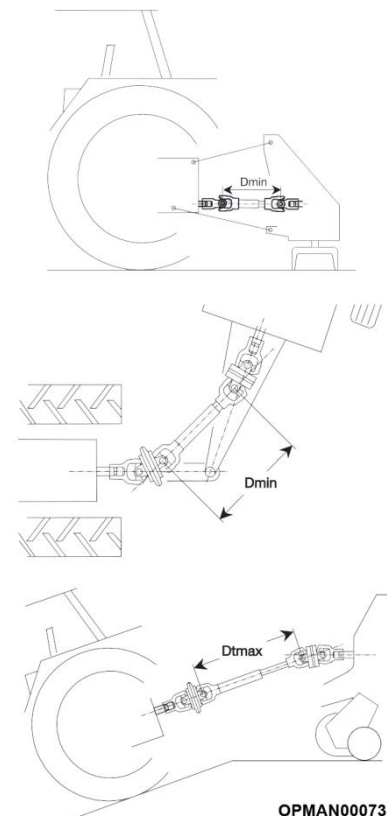

Figure 3.4 – Max/min Input Shaft Overlap
Place the tractor/machine in the position so the two halves of the shafts are at the minimum distance between the two ends; see Figure 3.4. At this point, verify any interference of the outer tube with the yoke inner tube and establish how much the outer tube needs to be shortened.
On trailed machines, the minimum distance "Dmin" (see Figure 3.4), occurs between the joints during steering. Verify that in the condition of maximum extension "Dmax", which generally occurs when the machine is aligned going slowly downslope, the coupling between the two tubes is still sufficient.
- 3.3.3.1 With the input PTO shaft attached, place the tractor and machine in the tightest corner possible, Dmax (see Figure 3.4).
- 3.3.4.6 Check the length of the driveshaft at the minimum and maximum positions of the machine. See Figure 3.4 for guidance on Dmin/Dmax lengths.